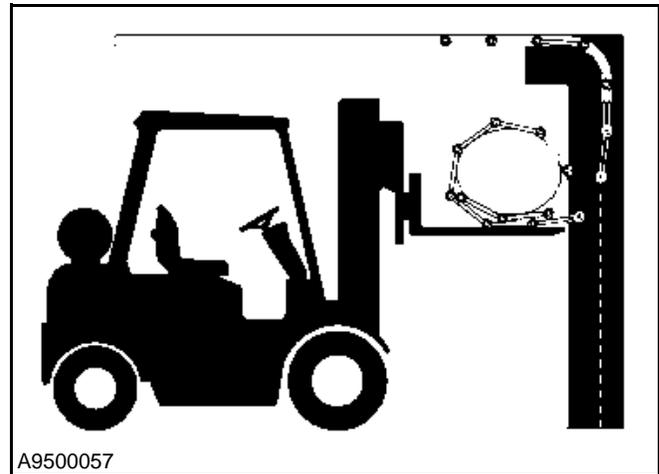

Figure 56
6. Guide the rollers of the door into the guide rail system. (See Figure 56.)